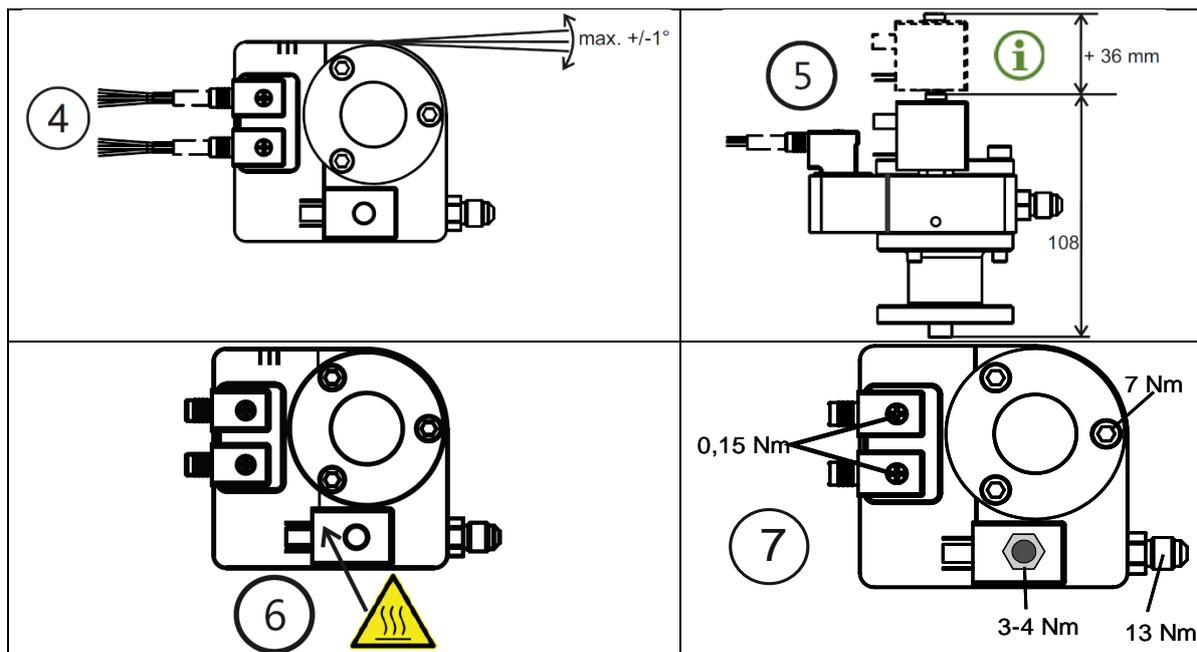

Fig. 4: Installation
- Align the Oil Level Controller horizontally (tol. +/- 1°, see Fig. 4).
5. Install the Oil Level Controller horizontally (Fig.4).